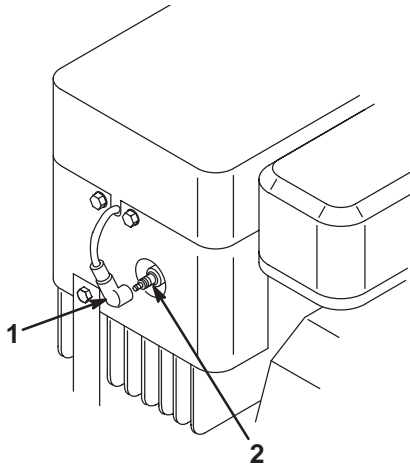

Figure 23
3. Pull the wire off of the spark plug (Fig. 23). Clean around the spark plug to prevent dirt from falling into the engine and potentially causing damage.
3. Push the wire onto the spark plug (Fig. 23).